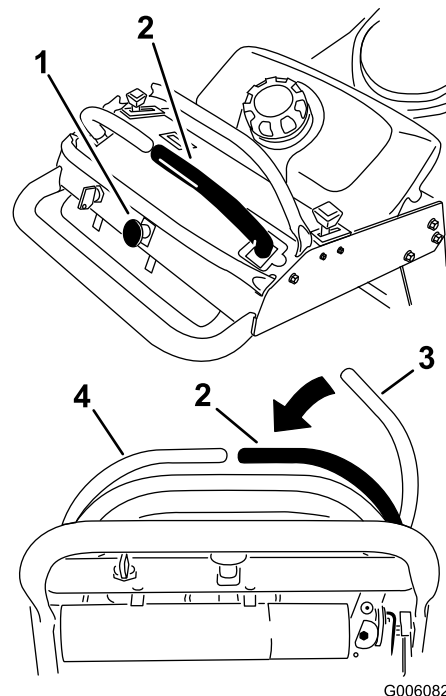

Figure 7
1. To engage the mower blades, move the right side motion control lever to the center, un-locked position (Figure 7).